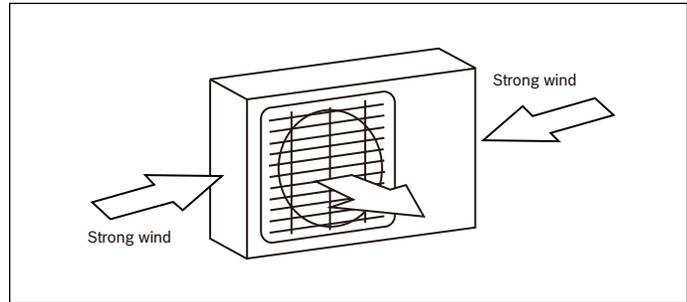
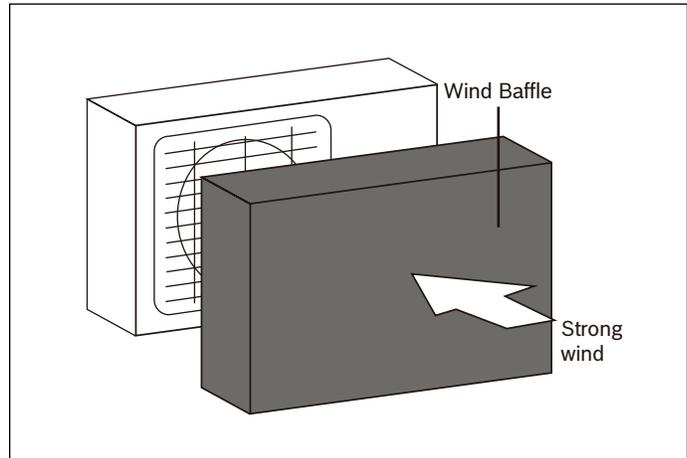

Figure 21
Figure 22
- ▶ If the unit is exposed to heavy wind: Install unit so that air outlet fan is at a 90° angle to the direction of the wind. If needed, build a barrier in front of the unit to protect it from extremely heavy winds. See Fig. 21 and Fig. 22.